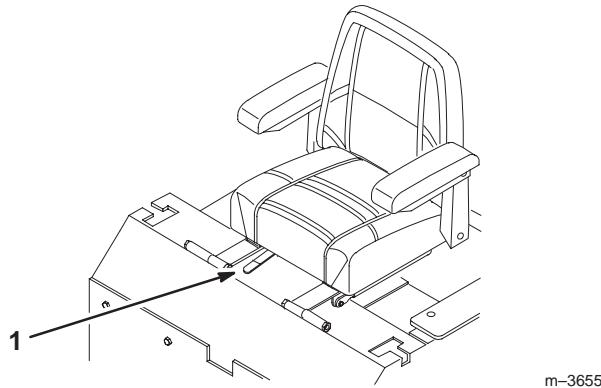

Figure 26
1. To adjust the cam locks, swing the lever up to loosen the cam lock (Fig. 26).
1. To adjust, move the lever sideways to unlock the seat (Fig. 26).